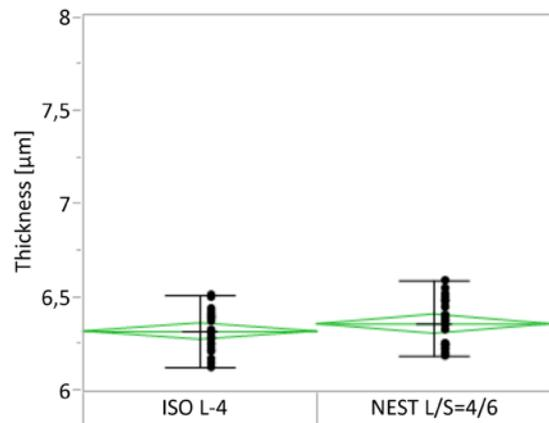

Figure 9: Achieved copper thickness distribution on a 600x600-mm panel.
1. Plating of a target copper thickness of 6 µm on a 600x600-mm panel with a copper thickness distribution of less than 5% (Figure 9)